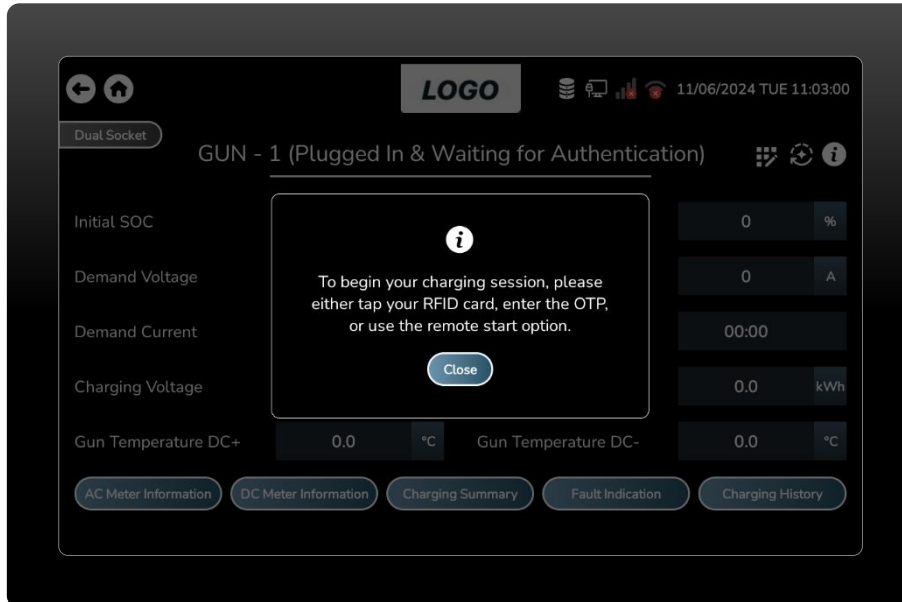

Figure 61 User Authentication pop-up on screen.
- To start the charging process, the user requires authorisation by tapping their RFID card, entering the OTP, or selecting the remote start option. (Figure 61)